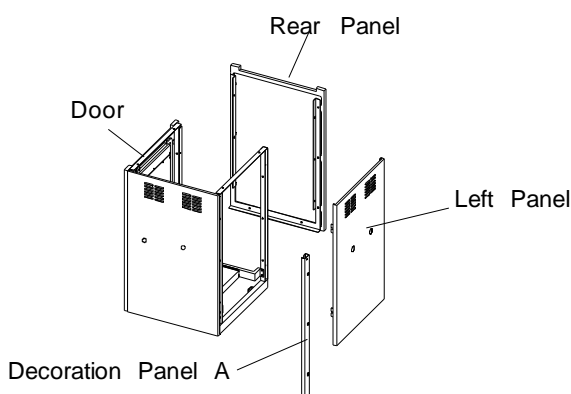

Fig. 3
- ☐ Reinstall Island Left Panel, Rear Panel and Decoration Panel A as shown in **Fig. 3**.